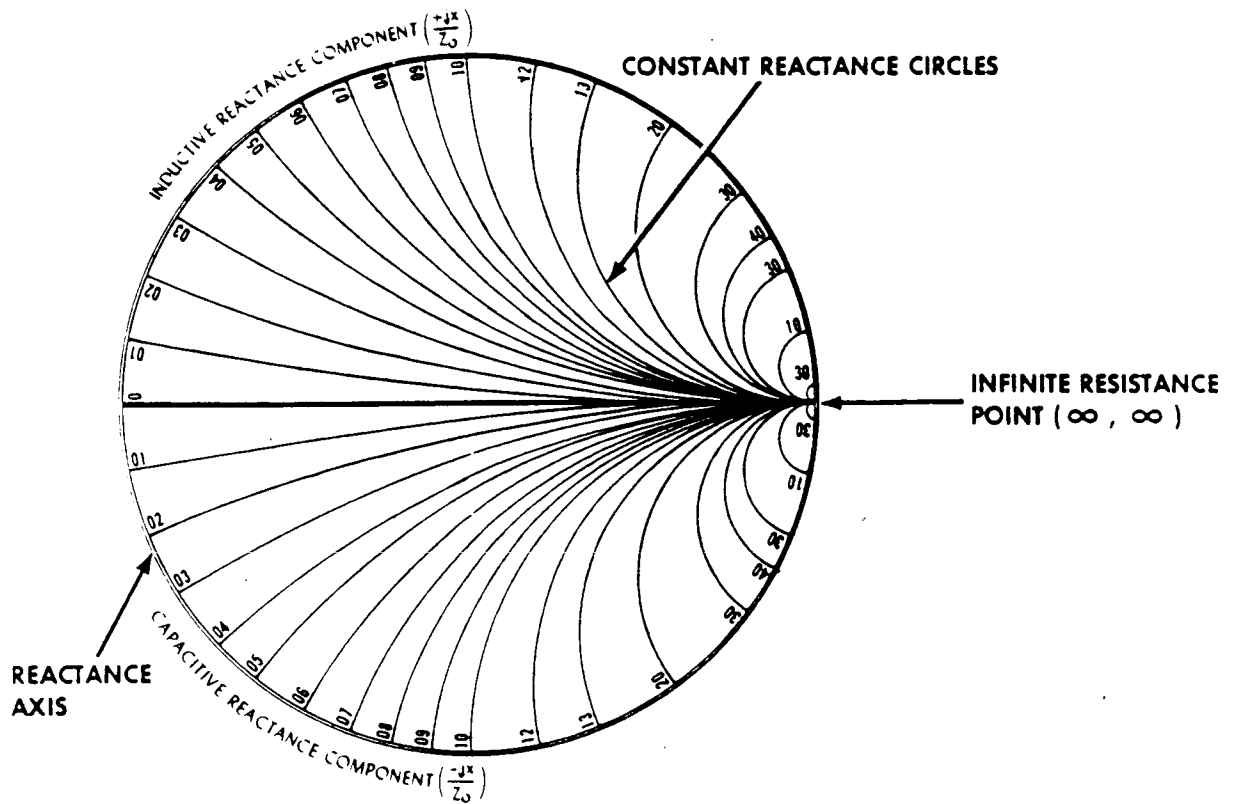

FIGURE 3-3. Smith Chart Reactance Scales.
**3.2.1.1** Superimposed over the Constant Resistance Circles are segments of circles tangent to the straight line Real Axis at the infinite resistance point with the circles centered off the edge of the chart as illustrated in Figure 3-3. These circles are Constant Reactance Circles. The outer rim of the chart is called the Reactance Axis and is scaled as relative reactance. Points along each Constant Reactance Circle segment have the same relative value as the point where it intersects the Reactance Axis on the rim of the chart. All points above the Real Axis contain an INDUCTIVE REACTANCE COMPONENT and all points below the Real Axis contain a CAPACITIVE REACTANCE COMPONENT. Since the scales go from zero to infinity, complex impedances can be plotted.